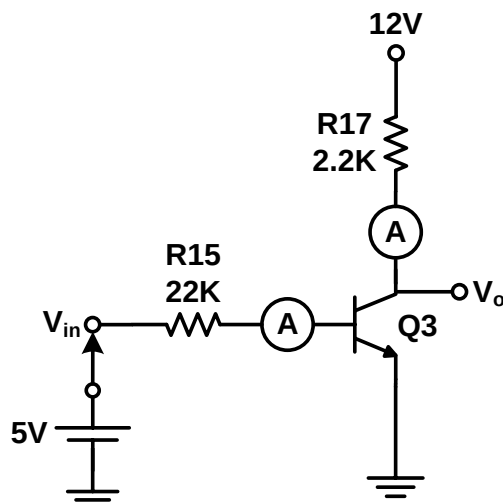

Fig .6
- (1) Insert the short-circuit clip by referring to Fig. 6.
- (2) Connect ammeter to measure I_B and I_C .
- (3) Feed 5V voltage to the input terminal, then view I_B , I_C and V_{CE} , and make records in table -1.
- (4) Disconnect voltage from the input terminal, then view I_B , I_C and V_{CE} , and make records in table -1.